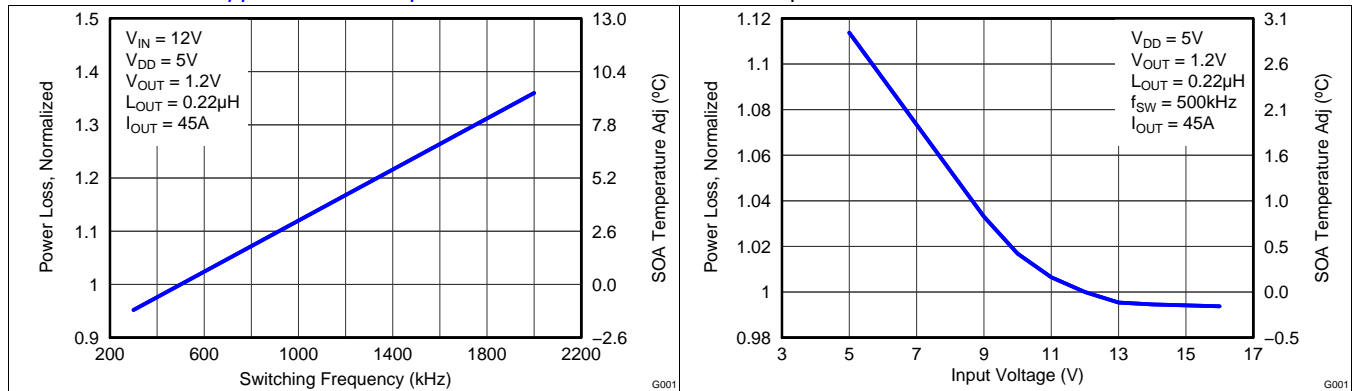

Figure 6. Normalized Power Loss vs Frequency
- Normalized Power Loss for switching frequency ≈ 1.07 (Figure 6)
- SOA adjustment for switching frequency $\approx 1.9^\circ\text{C}$ (Figure 6)